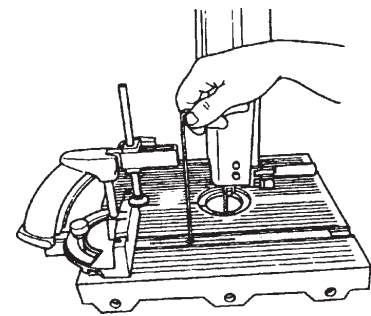

Figure A-15
3. Use a 5/32" Allen wrench to remove the expansion screw found in the center of the miter gauge's guide bar. See Fig. A-15.